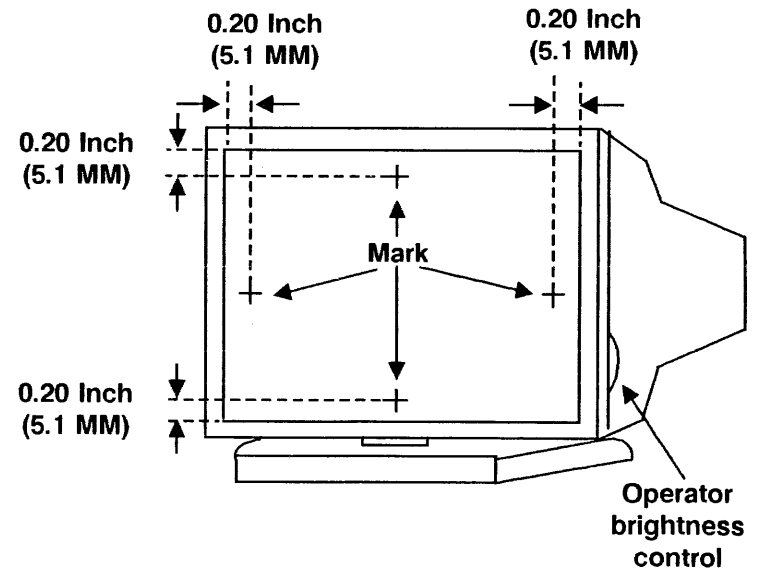

Figure 20. 15 Inch Display
- a. Use a felt tip pen to mark the face of the display as shown in Figure 20.